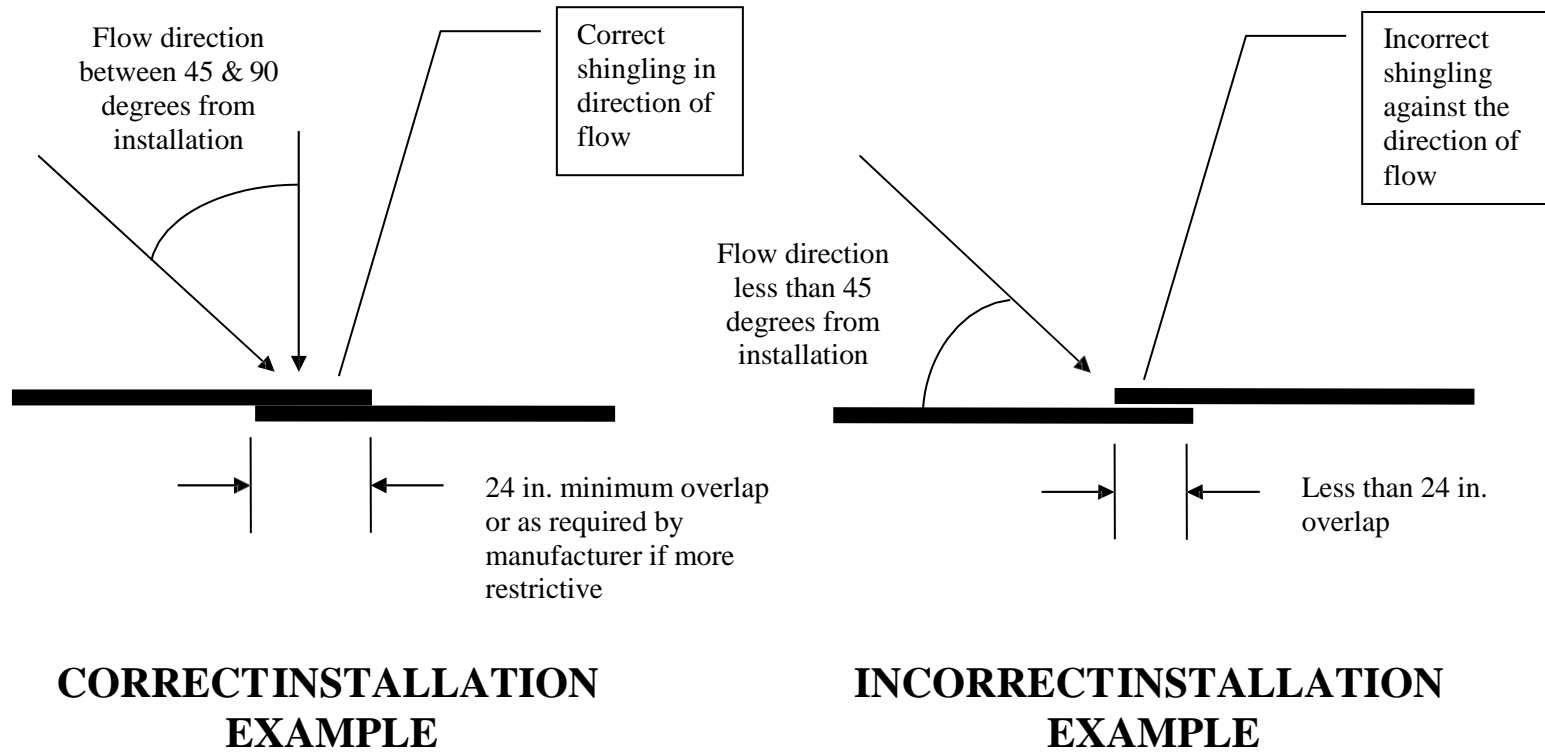

FIGURE 1
- B. **Orientation**– Log type products should be placed on the contour whenever possible but must be installed between 45° and 90° from the direction of flow. See Figure 1.
- D. **Overlap** – 24 inches minimum or as required by the manufacturer if more restrictive. Overlap should be shingled in the direction of flow. See figure 1.